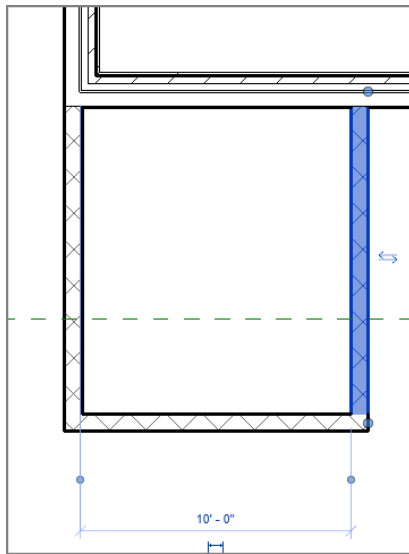

FIGURE 2.24: The selected wall is the wall that will move when you type the new dimension.
4. The actual increment in the dimension is blue. Select the blue dimension, type 10' (3000mm), and press Enter. The wall that was selected moves to accommodate the new increment, as shown in Figure 2.24.